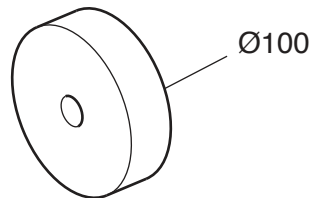

**Fig. 1**
- 1 Fig. 1 shows a cycle helmet. The outer and inner shells are made from different plastics.